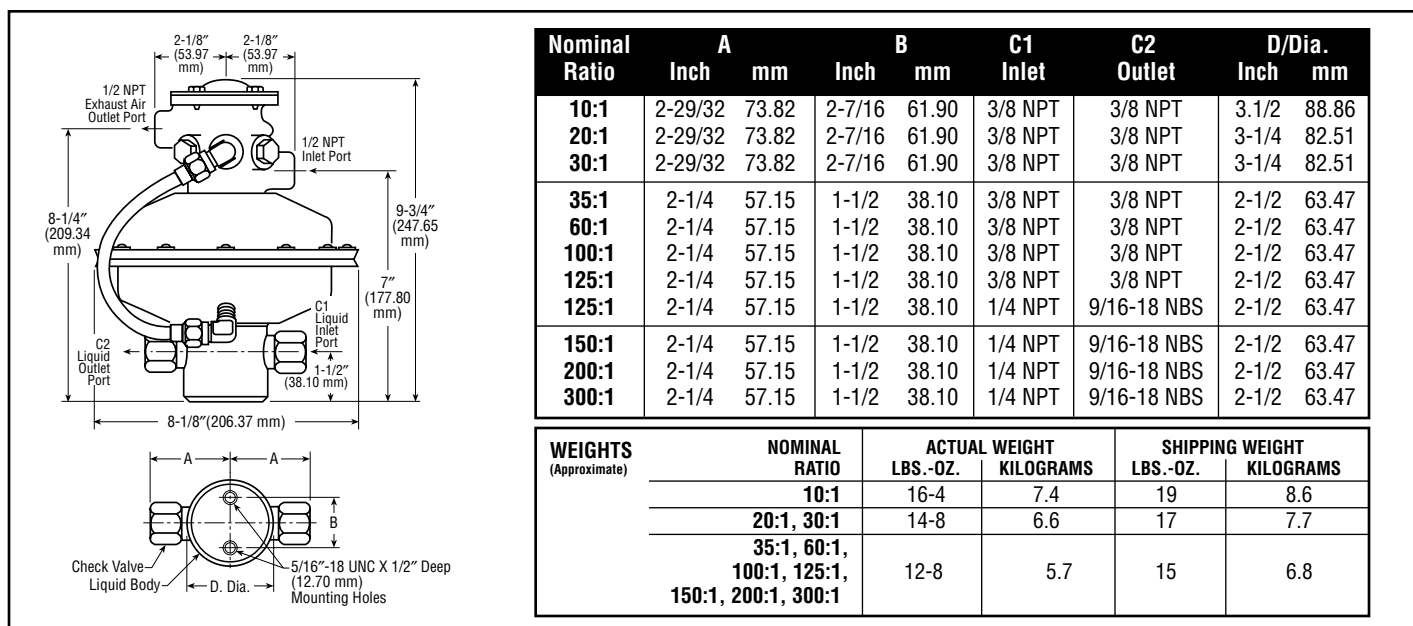

Figure 1-1 Basic pump dimensions and weights
1.3 MOUNTING-Two mounting holes are provided on the underside of the basic model pump's fluid body for attachment to a base plate or platform. See Figure 1-1.